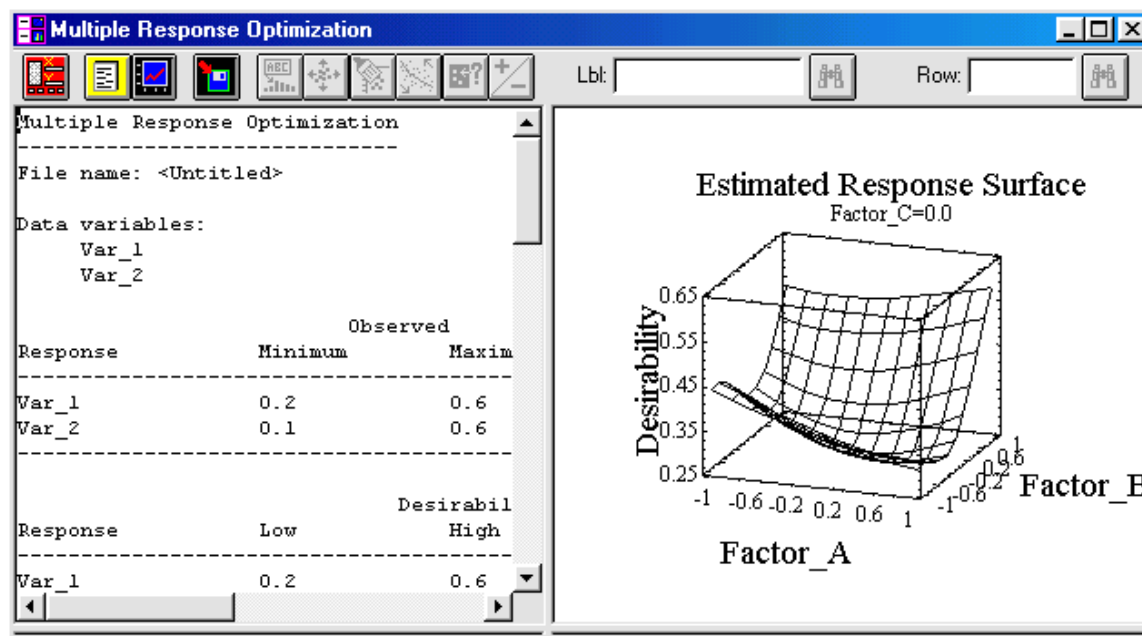

Figure 11-11. Multiple Response Optimization Window
3. Click OK to display the Multiple Response Optimization window shown in Figure 11-11.